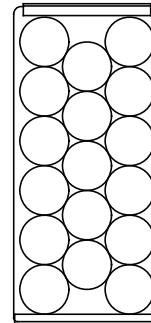

Fig B1
Beverage Compartment (Left): It will be necessary to position the cans alternately on the upper three shelves. This will allow for the storage of seventeen (17) 355ml cans (Fig. B) per shelf in each of the top three shelves, and ten (10) cans on the bottom (Fig. B1) for a total storage capacity of 61 beverage cans.